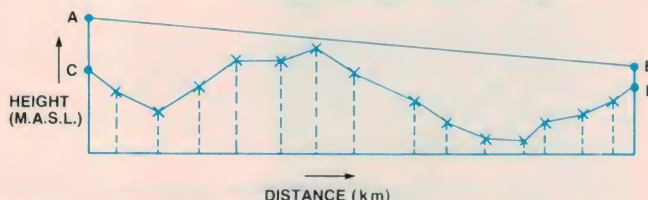

Figure 4. Plotting a path profile.
4. Plot the tabulated values on squared paper, as shown in Figure 4, and "join the dots" to display the profile of the terrain between the two antennas. Reference 5 has a description of this technique.
5. The path of the radio ray-line can then be added. In Figure 4, the line A-B is the path, where A-C and B-D are the heights of the antennas above ground level.